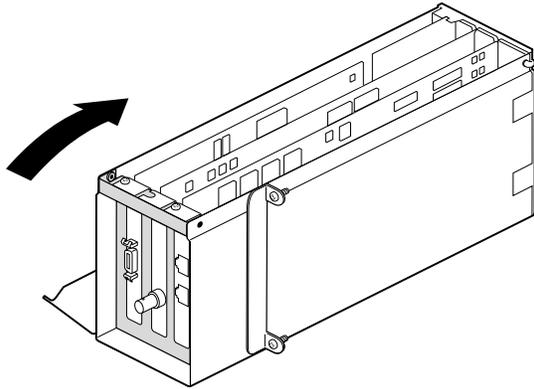

Figure 4-24 Closing the I/O Door
5. Close the I/O door, as shown in Figure 4-24.